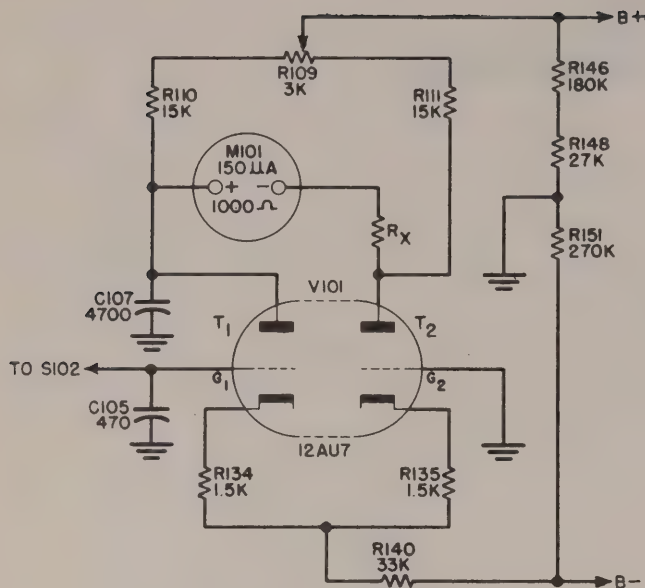

Figure 2-2. Basic Meter Circuit
a. METER CIRCUIT. (See Fig. 2-2)
Figure 2-2 illustrates the basic meter circuit used for all measurements except DC MILS and 0-1000 VOLTS AC. A twin-triode V101, type 12AU7, is electrically connected as shown. With no voltage on either grid, ZERO ADJUST control R109 is set so that the meter reads zero. In operation, one of the grids is always grounded and a voltage applied to the opposite grid. Assume a case where grid No. 2 is grounded and a negative voltage applied to grid No. 1. This will cause a decrease in current through triode
R_X as indicated in Figure 2-2, is an adjustable calibrating resistor. A separate potentiometer is used in place of R_X for calibration of AC volts RMS, AC volts peak-to-peak, DC volts and ohms measurements.